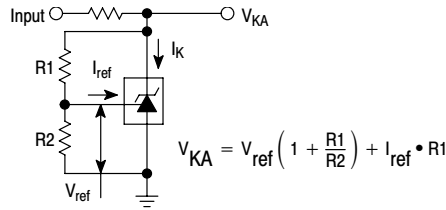

Figure 2. Test Circuit for $V_{KA} > V_{ref}$
3. The dynamic impedance Z_{KA} is defined as: $|Z_{KA}| = \frac{\Delta V_{KA}}{\Delta I_K}$. When the device is programmed with two external resistors, R1 and R2, (refer to Figure 2) the total dynamic impedance of the circuit is defined as: $|Z_{KA}'| \approx |Z_{KA}| \left(1 + \frac{R1}{R2} \right)$
6. The dynamic impedance Z_{KA} is defined as $|Z_{KA}| = \frac{\Delta V_{KA}}{\Delta I_K}$ When the device is programmed with two external resistors, R₁ and R₂, (refer to Figure 2) the total dynamic impedance of the circuit is defined as: $|Z_{KA}'| \approx |Z_{KA}| \left(1 + \frac{R_1}{R_2} \right)$